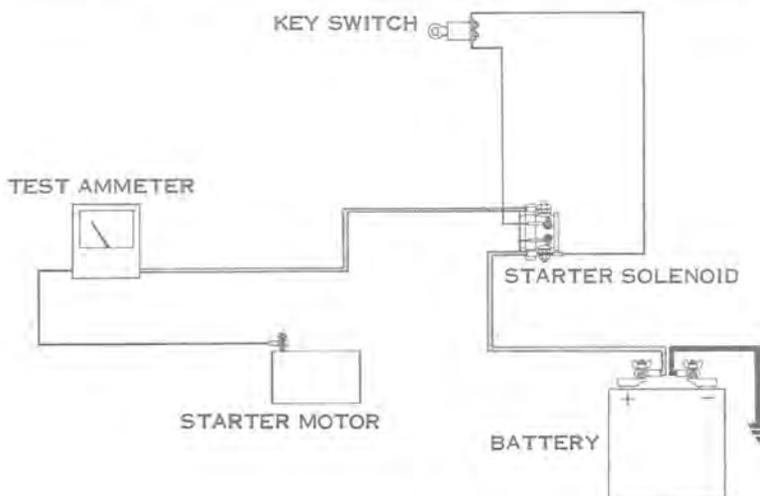

Figure 6-32
- a. Ground spark plug high tension leads so that engine can be cranked without firing. Place clamp-on ammeter capable of reading at least 200 amperes against starter motor lead (see Figure 6-32).